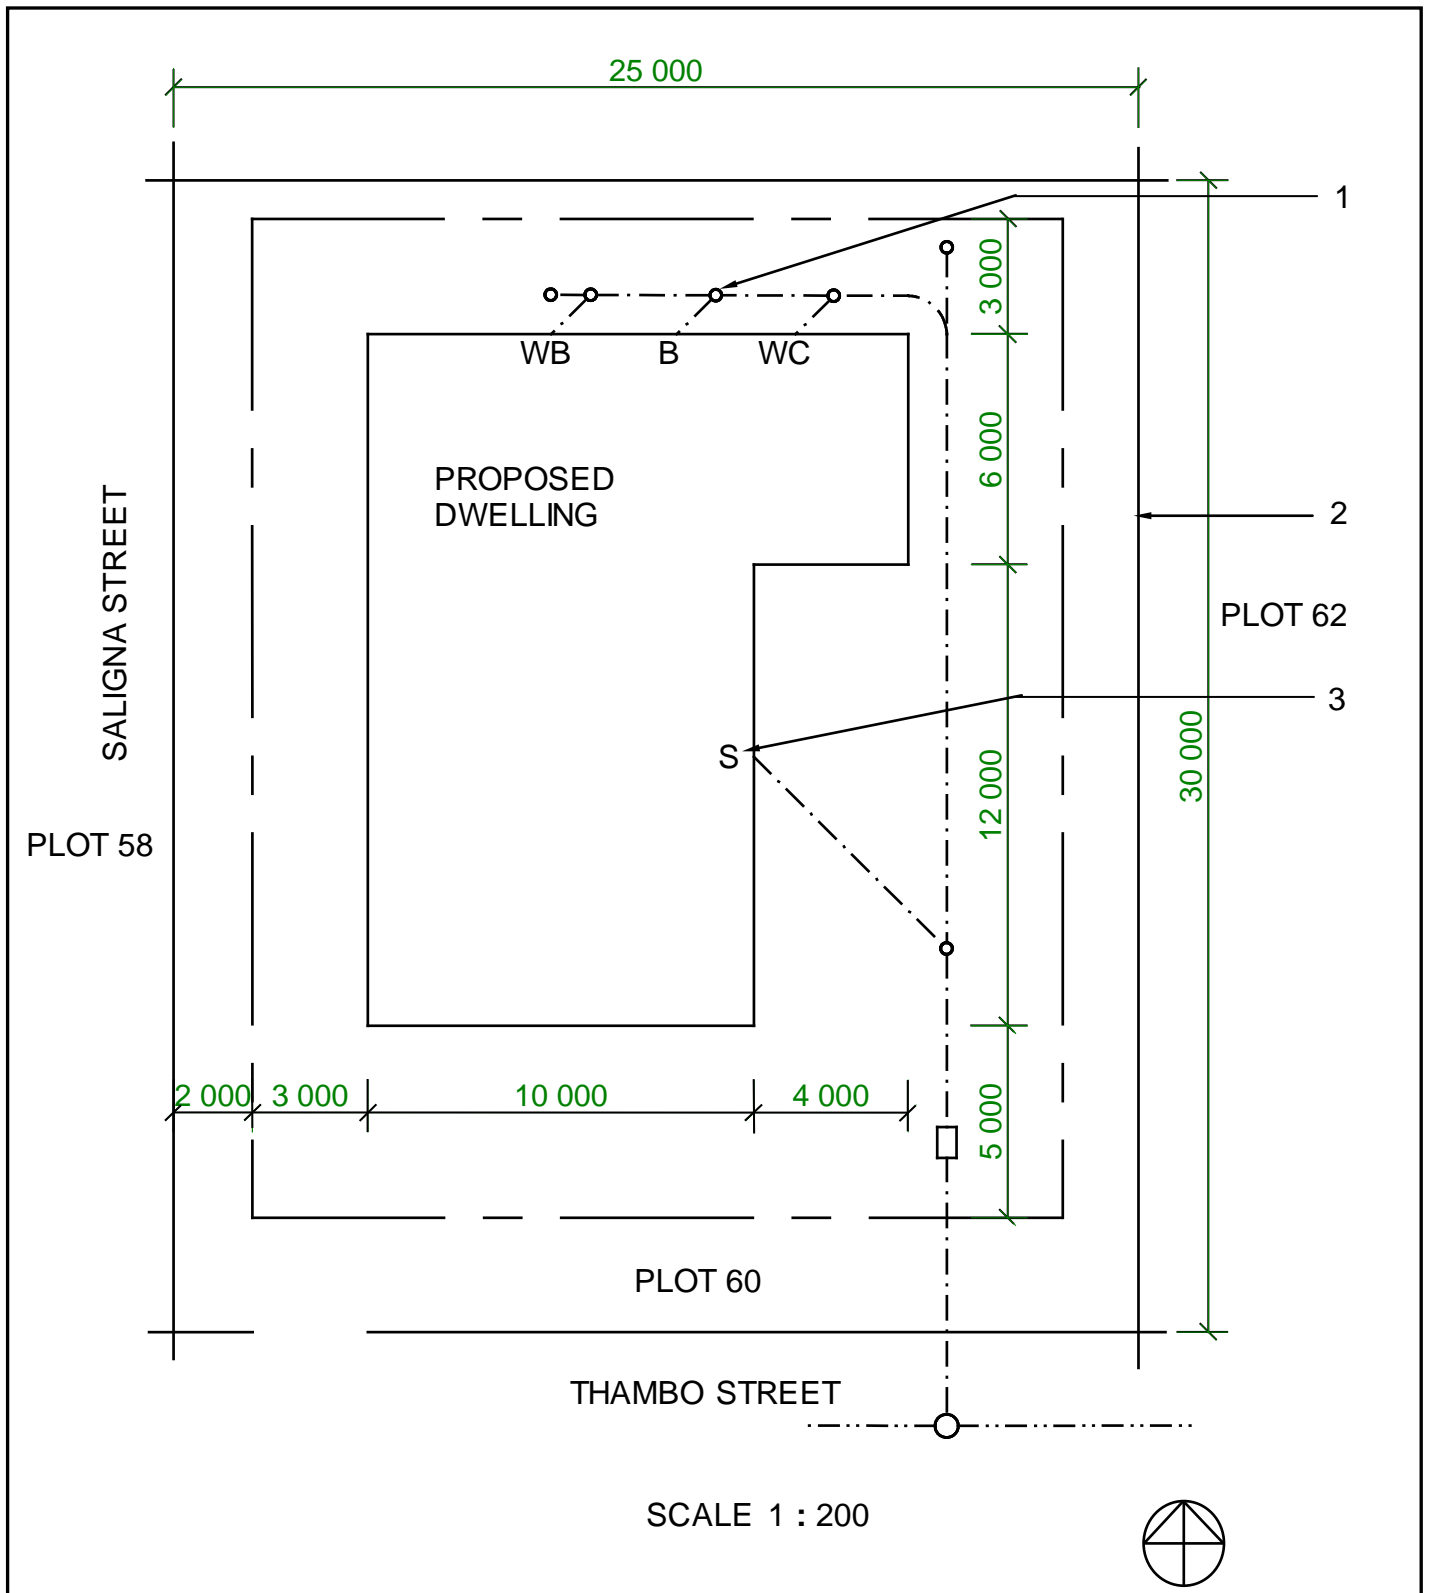

FIGURE 6.1
6.1 FIGURE 6.1 below shows the SITE PLAN of a proposed dwelling.